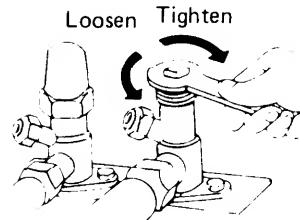

Fig. 31
- d) After 45 seconds, fasten the flare nut (A) of wide tube tightly as it was. Fig. 31